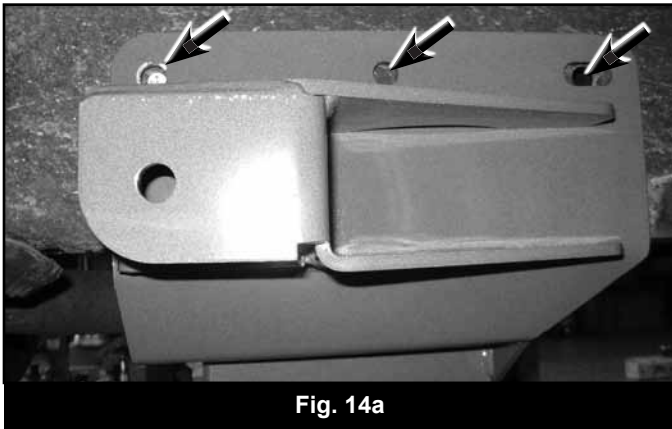

Fig. 14a
33. Install long arm bracket to the side of the frame rail around the transmission crossmember mount. Loosely attach with 9/16" x 7" bolts. Mark the top center holes to be drilled. Bolt pack # 782 (Fig 14a, 14b)